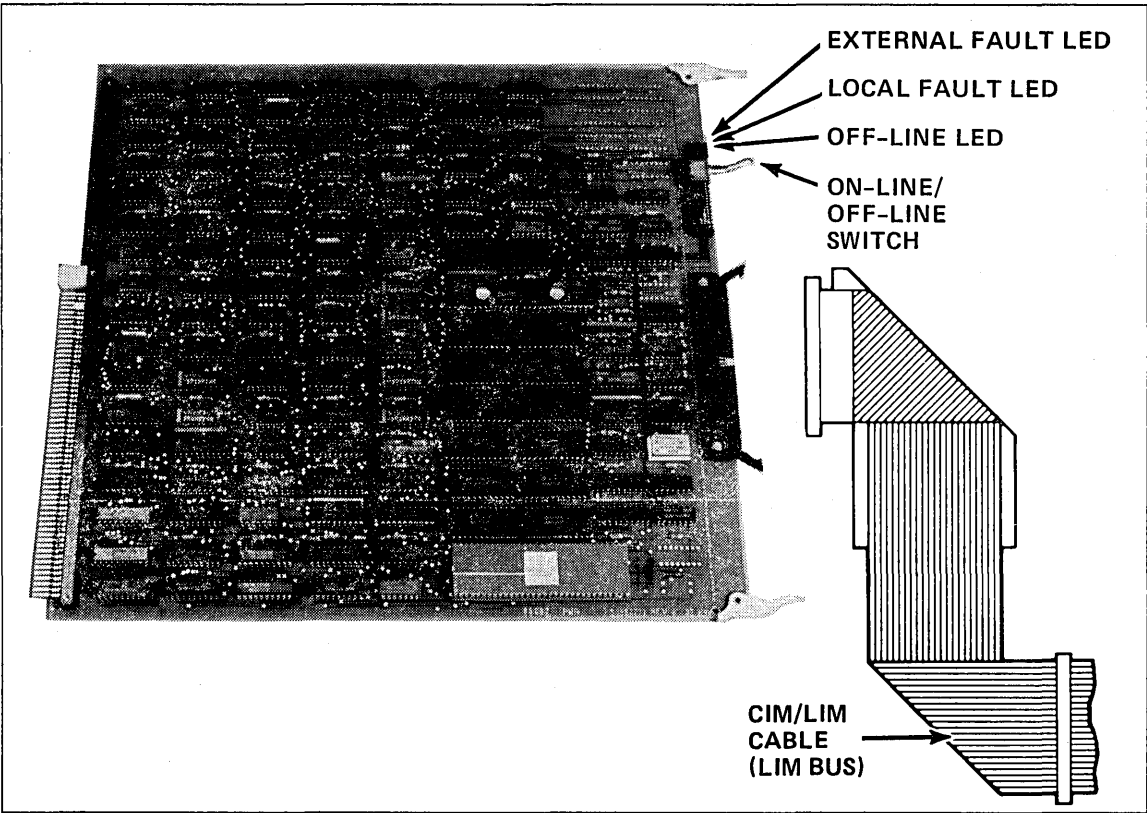

Figure 1-40. CIM Board and CIM/LIM Cable
1. Unpack the CIM board and the CIM/LIM cable assembly (shown in figure 1-40), the equipment label, and the FCO label.